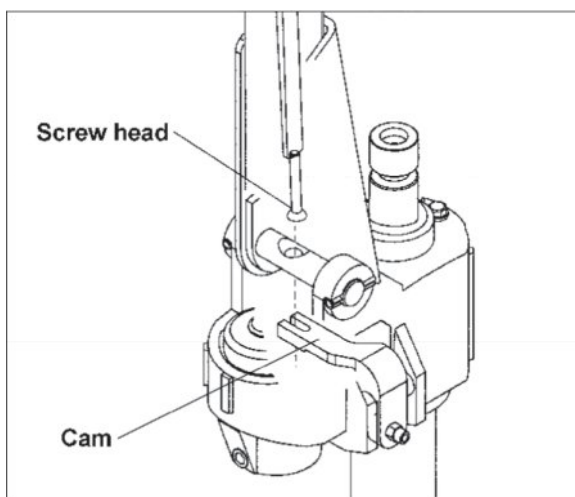

Figure 3
3. Feed the screw head through the center hole in the handle pin (Figure 3). Using a screwdriver, pry up the cam and slip the screw head under the notch in the cam.